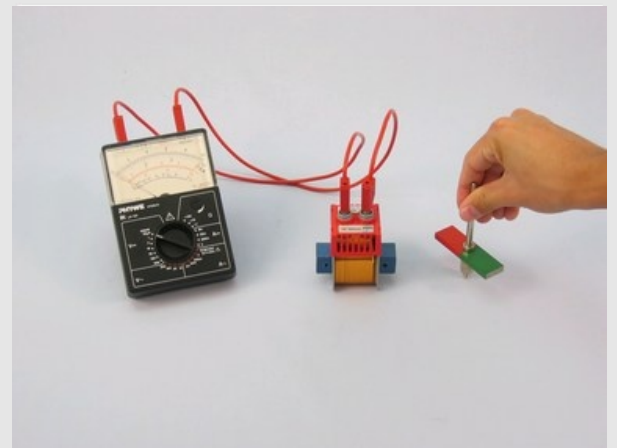

Fig. 4
- Instead of the two coils with 400 turns each, connect 1 coil with 1600 turns to the measuring instrument (see Fig. 4). Push the yoke into the coil and turn the magnet next to the coil. Compare the pointer deflection with that of (2) and note your observations under "Result - Observations 5" in the protocol.